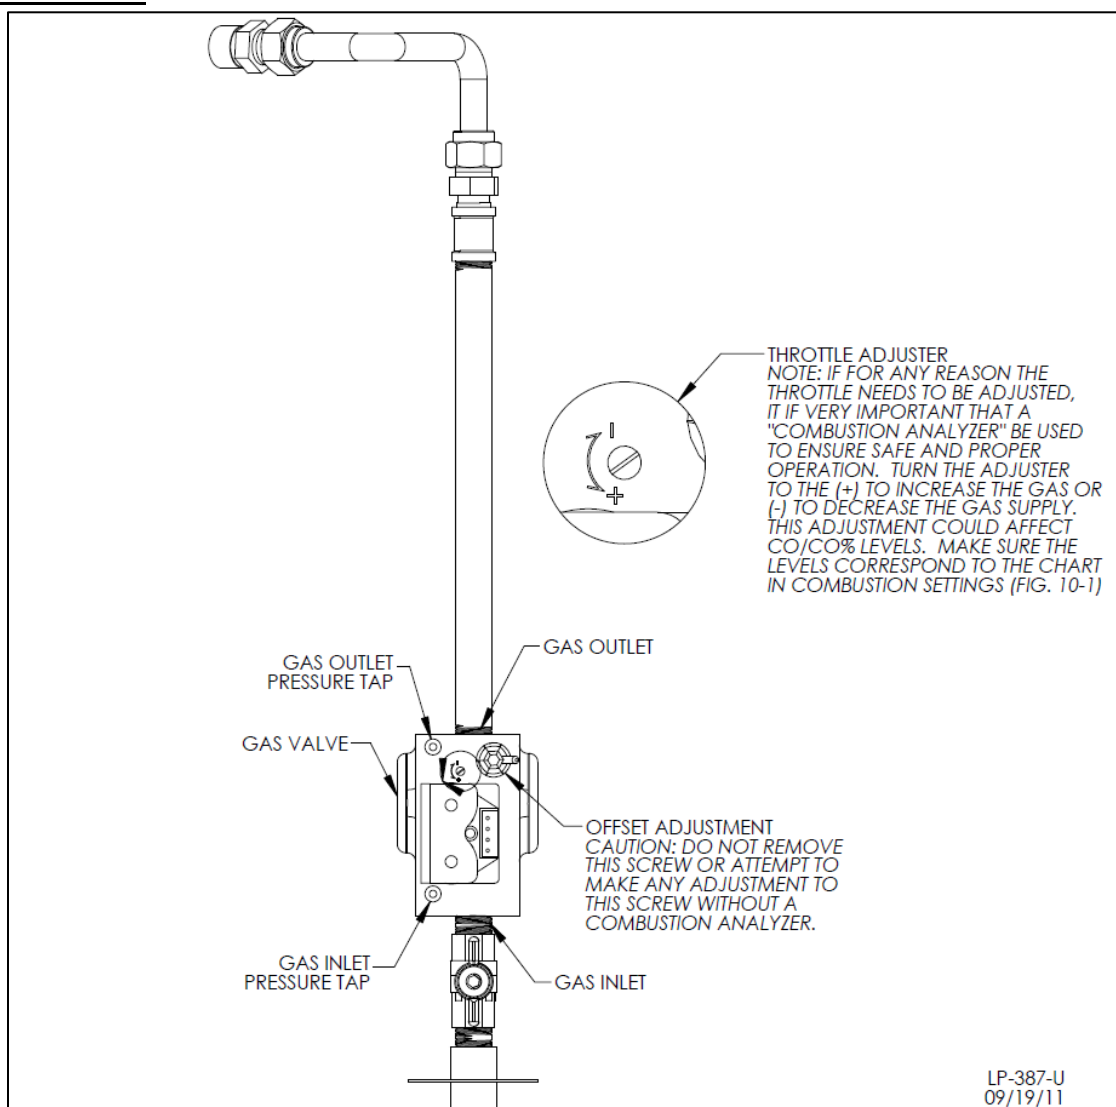

Figure 27 – Gas Valve Detail
2. Loosen the pressure tap with a small screwdriver. Refer to Figure 27 for location.